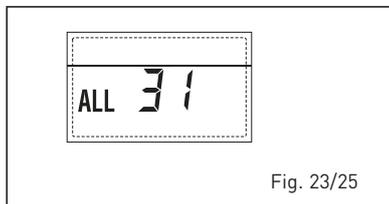

Fig. 23/25
**- ANOMALIE CONFIGURATION INSTALLATION TROIS ZONES "ALL 32" (fig. 23/26)**